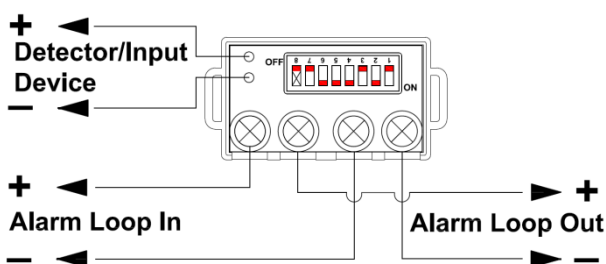

Fig. 1: 620 wiring connections
- Connect the conductors to the base terminals as shown in Fig. 1.
- Install the device (eg detector or manual call point) in the non-addressable alarm zone and connect it to the detector/input device conductors (see Fig. 1).